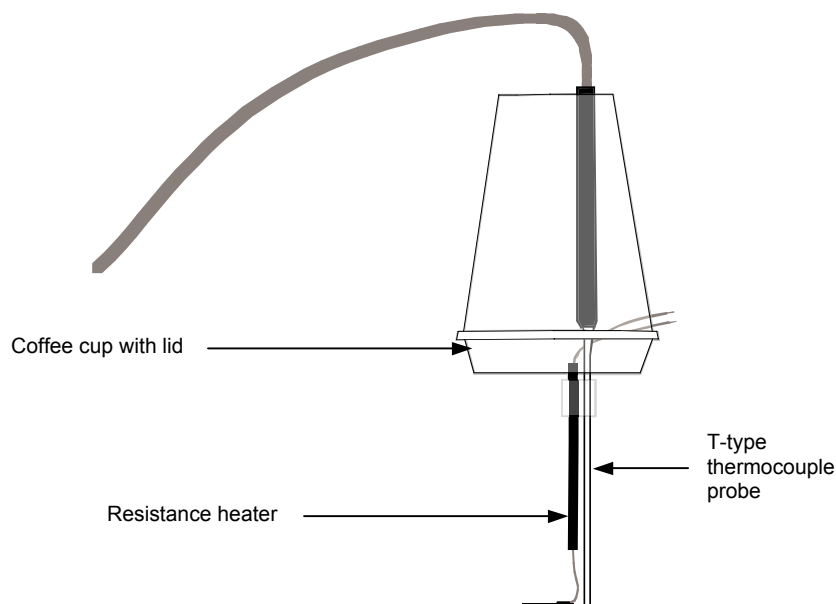

Figure 10.2 Coffee cup calorimeter lid
10.2.5 Pierce the lid and base of a coffee cup, slightly off center and insert the ET1400 T-type Thermocouple Probe as shown in **Figure 10.2**.
- 10.2.7** Level the heater pad with the tip of the thermocouple probe, and with the heater pad in the same orientation as shown in **Figure 10.2**, secure the resistance heater with sticky tape halfway up the shaft of the probe.